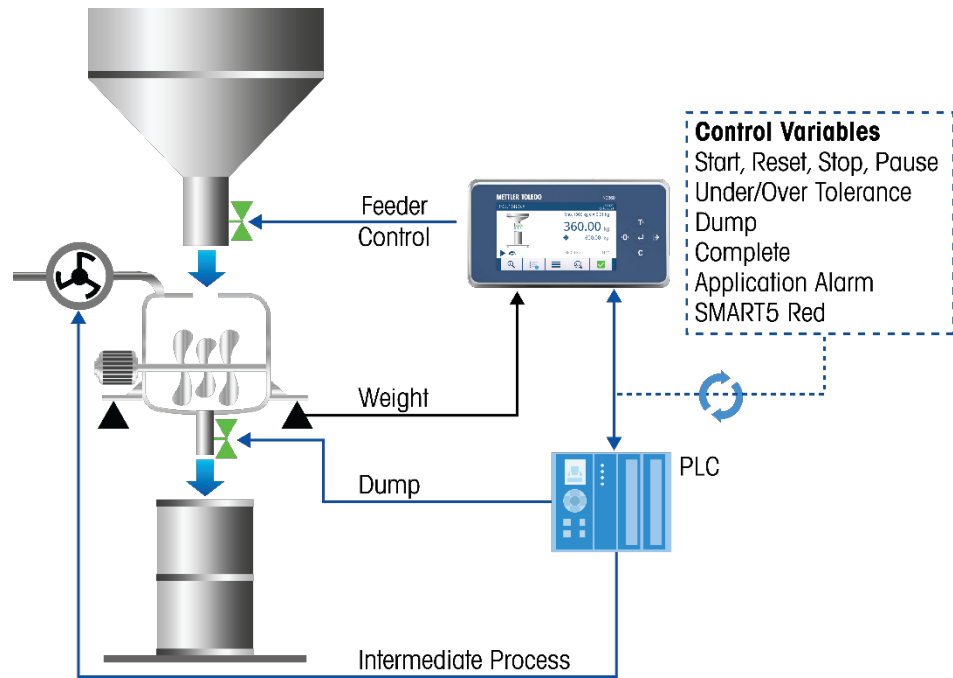

Figure 3-7: Fill-Dump Setup with Intermediate Process Managed by PLC
- In a more complex scenario: additional material processing steps (for example, mixing) are interposed before the material is dumped (Figure 3-7).